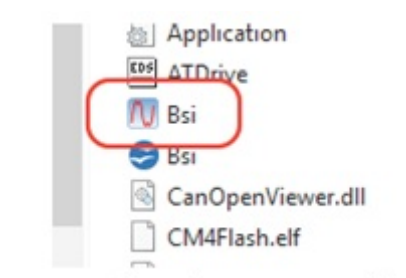

Figure 1. BSI icon
- Prepare the self-supporting drive shaft $\varnothing$ with diameter and protrusion according to fig. 1.
- Make a fixing hole with the dimensions and center distance prescribed by the drive shaft $\varnothing$ according to fig. 1.